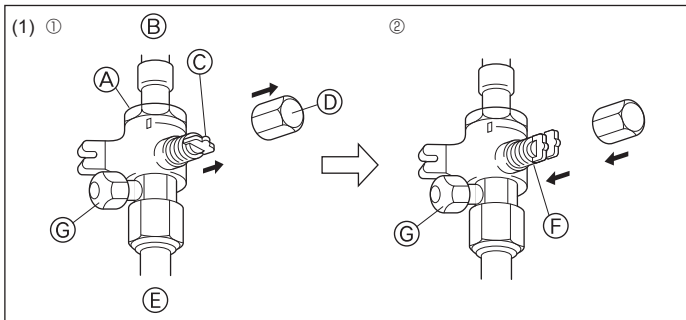
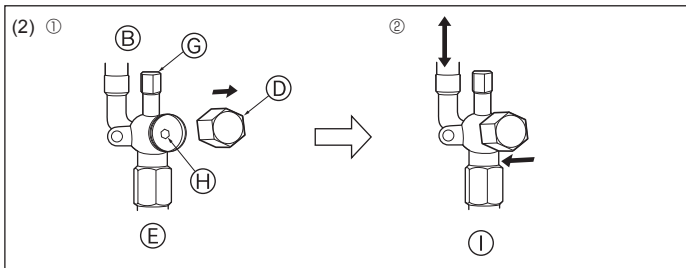

Fig. 4-12
Fig. 4-13
(1) Gas side (Fig. 4-12)
- ① Remove the cap, pull the handle toward you and rotate 1/4 turn in a counterclockwise direction to open.
- ② Make sure that the stop valve is open completely, push in the handle and rotate the cap back to its original position.
(2) Liquid side (Fig. 4-13)
- ① Remove the cap and turn the valve rod counterclockwise as far as it will go with the use of a 4 mm hexagonal wrench. Stop turning when it hits the stopper. (ø6.35: Approximately 4.5 revolutions) (ø9.52: Approximately 10 revolutions)